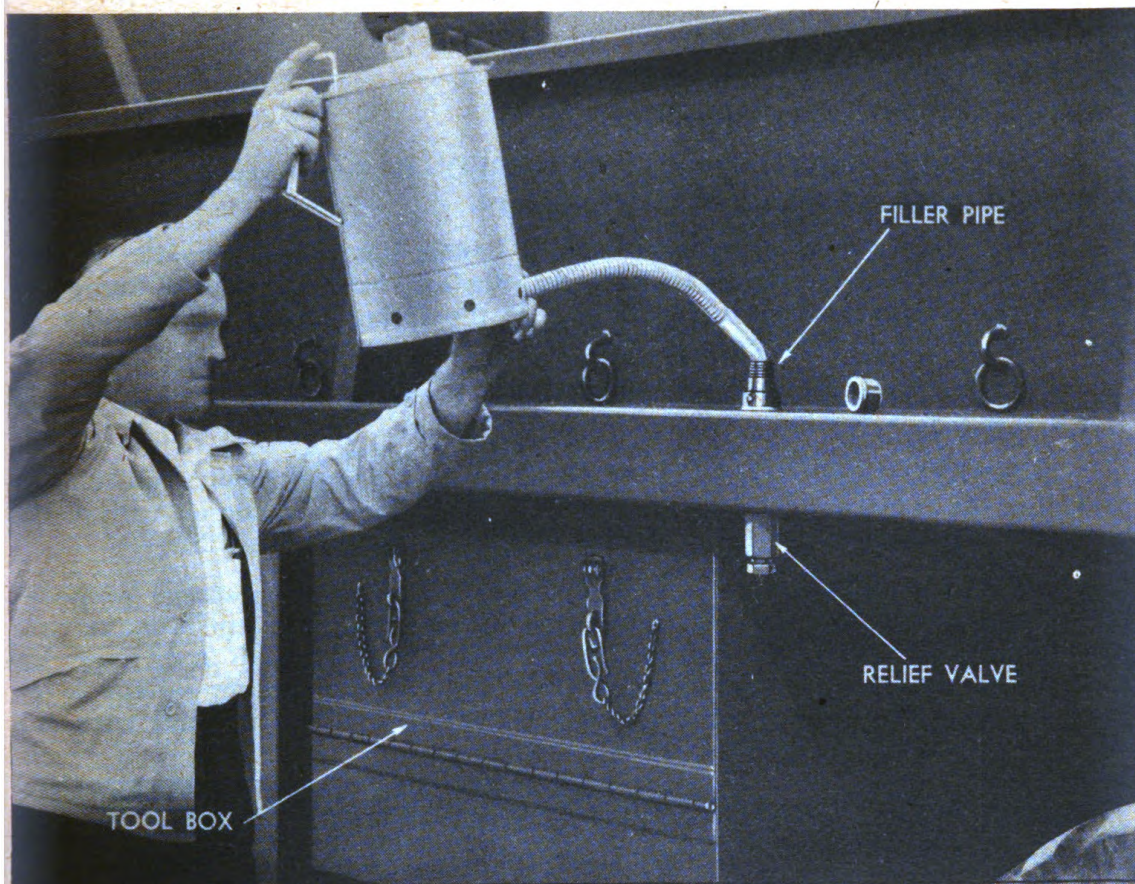

Figure 35. Adding Hydraulic Oil Through Filler Pipe. Note Relief Valve Beneath
(2) FILLING THE HYDRAULIC SYSTEM is done through a fill pipe located at about the center of the left running board of the body, see Figure 35. On top of the reserve tank toward the rear is a small plug. If this plug is removed when filling the system, air in the tank will escape and the tank can be filled more quickly. After the tank has been filled, it is well to leave the pipe cap off the filler pipe and operate the boom WITH A LOAD, allowing the boom to lower by gravity. This will force out any excess oil. Be sure to replace the filler cap after operating the boom.
(3) **RELIEF VALVE**—There is a relief valve in the filler pipe directly under the body running board, Figure 35, to relieve any pressure that might build up in the tank due to expansion of oil or excess oil that might be in the system. Pressure greater than this valve can handle, however, may be built up by excess oil in the system when operating under a load. For this reason it is recommended that the fill cap be left off until the operation in above paragraph has been completed.
(5) **SHORTAGE OF OIL IN SYSTEM** will cause jerky action. This is caused by air in the cylinder which is compressible. Another indication of oil shortage is the grinding noise created by the pump when it is being starved for oil. The oil shortage should be immediately remedied by adding oil or refilling as explained in paragraph 4 a, (2), page 32.